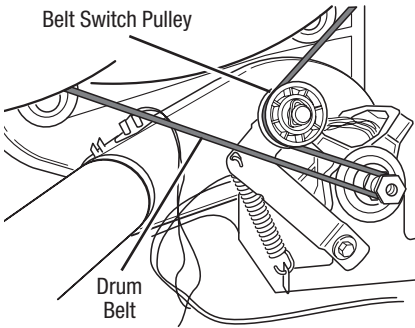

Figure 7. Slowly remove drum belt.
- 4.** Check the belt switch and drive motor. Access the belt switch and drive motor by removing the back panel. Slowly remove the drum belt from the spring-loaded belt switch pulley, gently letting the belt switch pulley down. See figure 7, page 15.